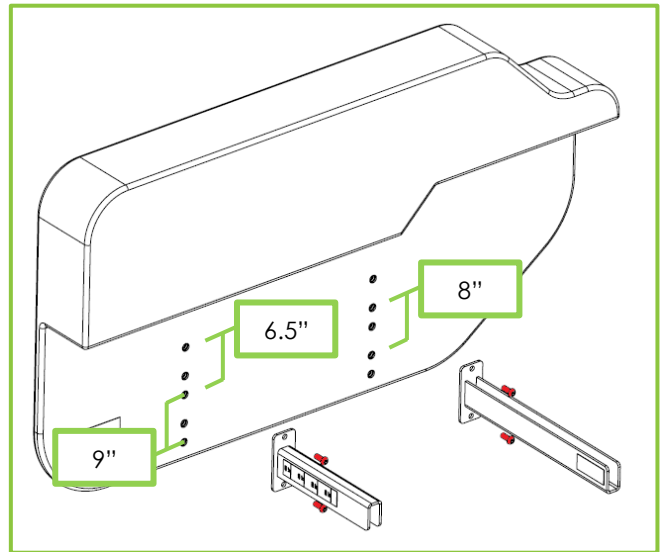

Figure 15
3. Pull the sidepiece from the chair seat frame, undo the screws (Figure 15) from the fixing bars.
4. Locate the fixing bars to the desired position for armrest height, secure the fixing bars with screws. Refer to Figure 15 for armrest height position and fixing bar location.